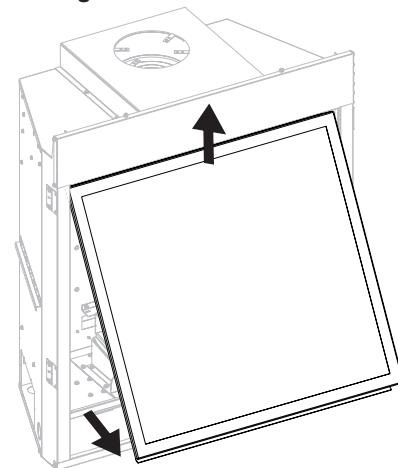

Figure 6
3. Disengage Glass Frame by pulling outward in a swinging motion. Place Glass Frame aside in a safe out-of-the-way location. See Figure 6.